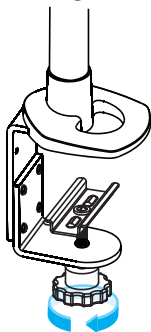

Figure 1
1. Adjust the **Thumbscrew** on the **Desk Clamp** to match the **Thickness** of the **Desk**. (Figure 1)